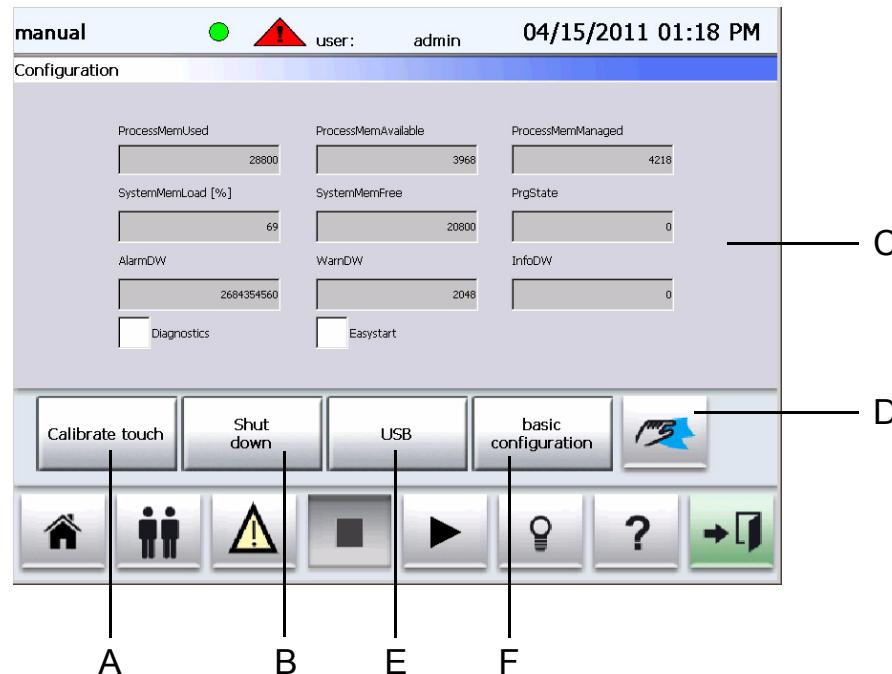

Fig. 3-17
- refer to chapter 3.2.4, Fig. 3-17 (page 33)